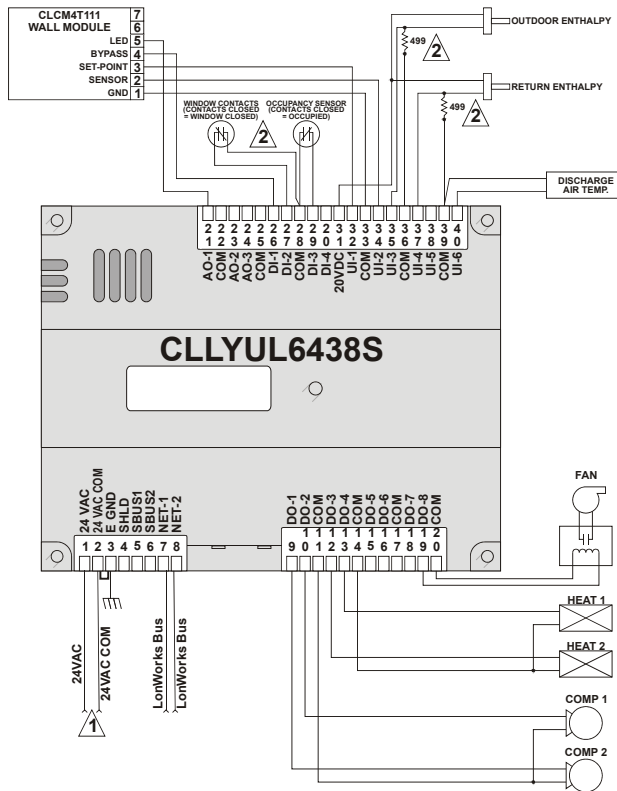

Fig. 19. Controller wiring diagram (CLLYUL6438S shown) with 4...20 mA enthalpy sensors and digital inputs
- Typical controller wiring for 4...20 mA enthalpy sensors and digital inputs (see Fig. 19).